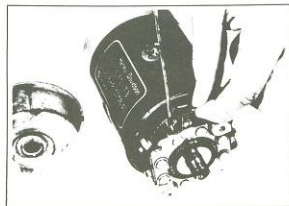
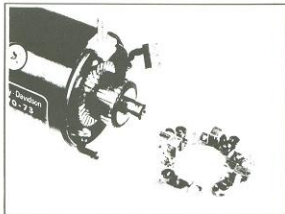

Figure 5-32. Removing Brushes - Hitachi Motor
Figure 5-33. Hitachi Brushes and Brush Holder
Lift the brushes from the commutator. As shown in Figure 5-32, pulling up the brush spring with a steel wire and pull out the brushes. Note that two minus brushes (7) have to be withdrawn slightly to be held in the brush guide, making use of the action of the brush spring. The other two plus brushes (8) should be completely removed from the brush holder assembly (9) as shown in Figure 5-33.